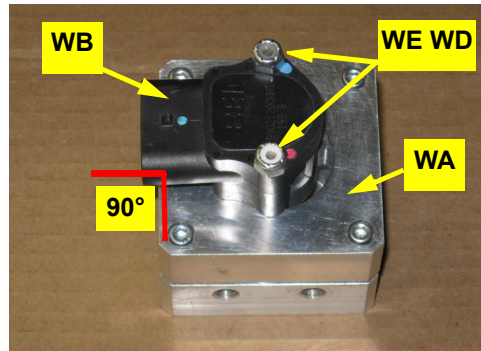

Figure 1a: Prepared WAS housing/connector
- a. Using the provided hardware **WE** (nuts) and **WD** (bolts - not shown), attach the WAS wire connector **WB** to the WAS housing **WA**. Install the bolts up through the bottom of the housing. The WAS wire connector **WB** can be mounted 90° to any of the WAS housing **WA** sides (Figure 1a).